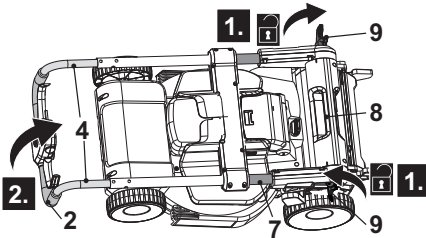

Fig. 1
1. Unfold and loosen the clamp levers (9) anti-clockwise on both sides of the lower handle bar (7), but do not remove them (Fig. 1, step 1).
2. Hold the grip handle (2) with one hand and unfold the handle assembly (Fig. 1, step 2). Make sure that the inter-connection cord (19) run on the upper side of the upper handle bar (4) and the lower handle bar (7).